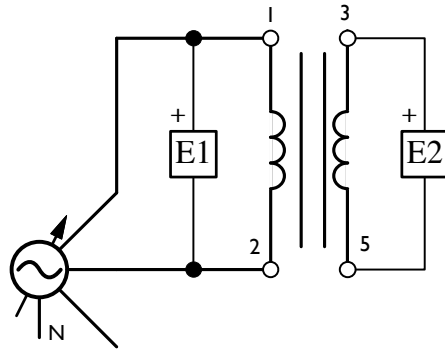

Figure 2.2: Single Phase Transformer
- 6. Construct the circuit shown in Figure 2.2. Note that E1 measures the input (primary side) voltage E_{1-2} , and E2 measures the corresponding output voltage E_{3-5} on the secondary side of a single-phase transformer.